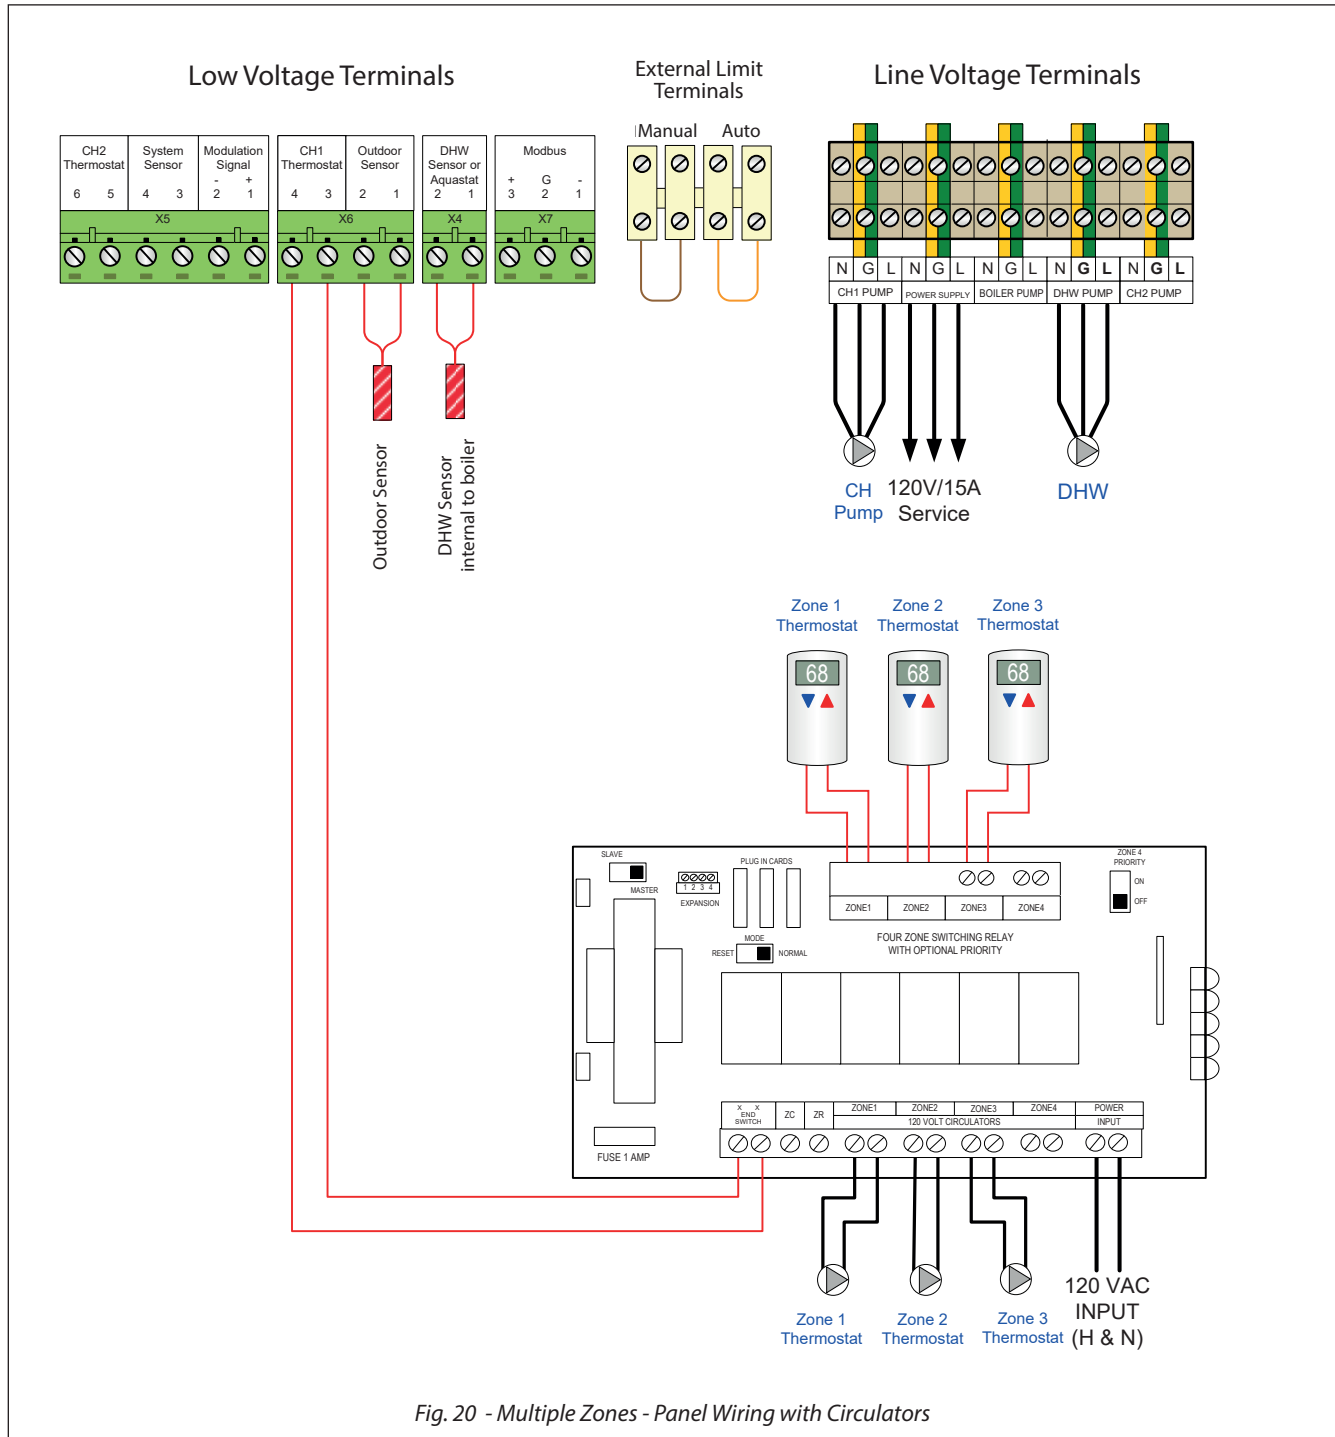
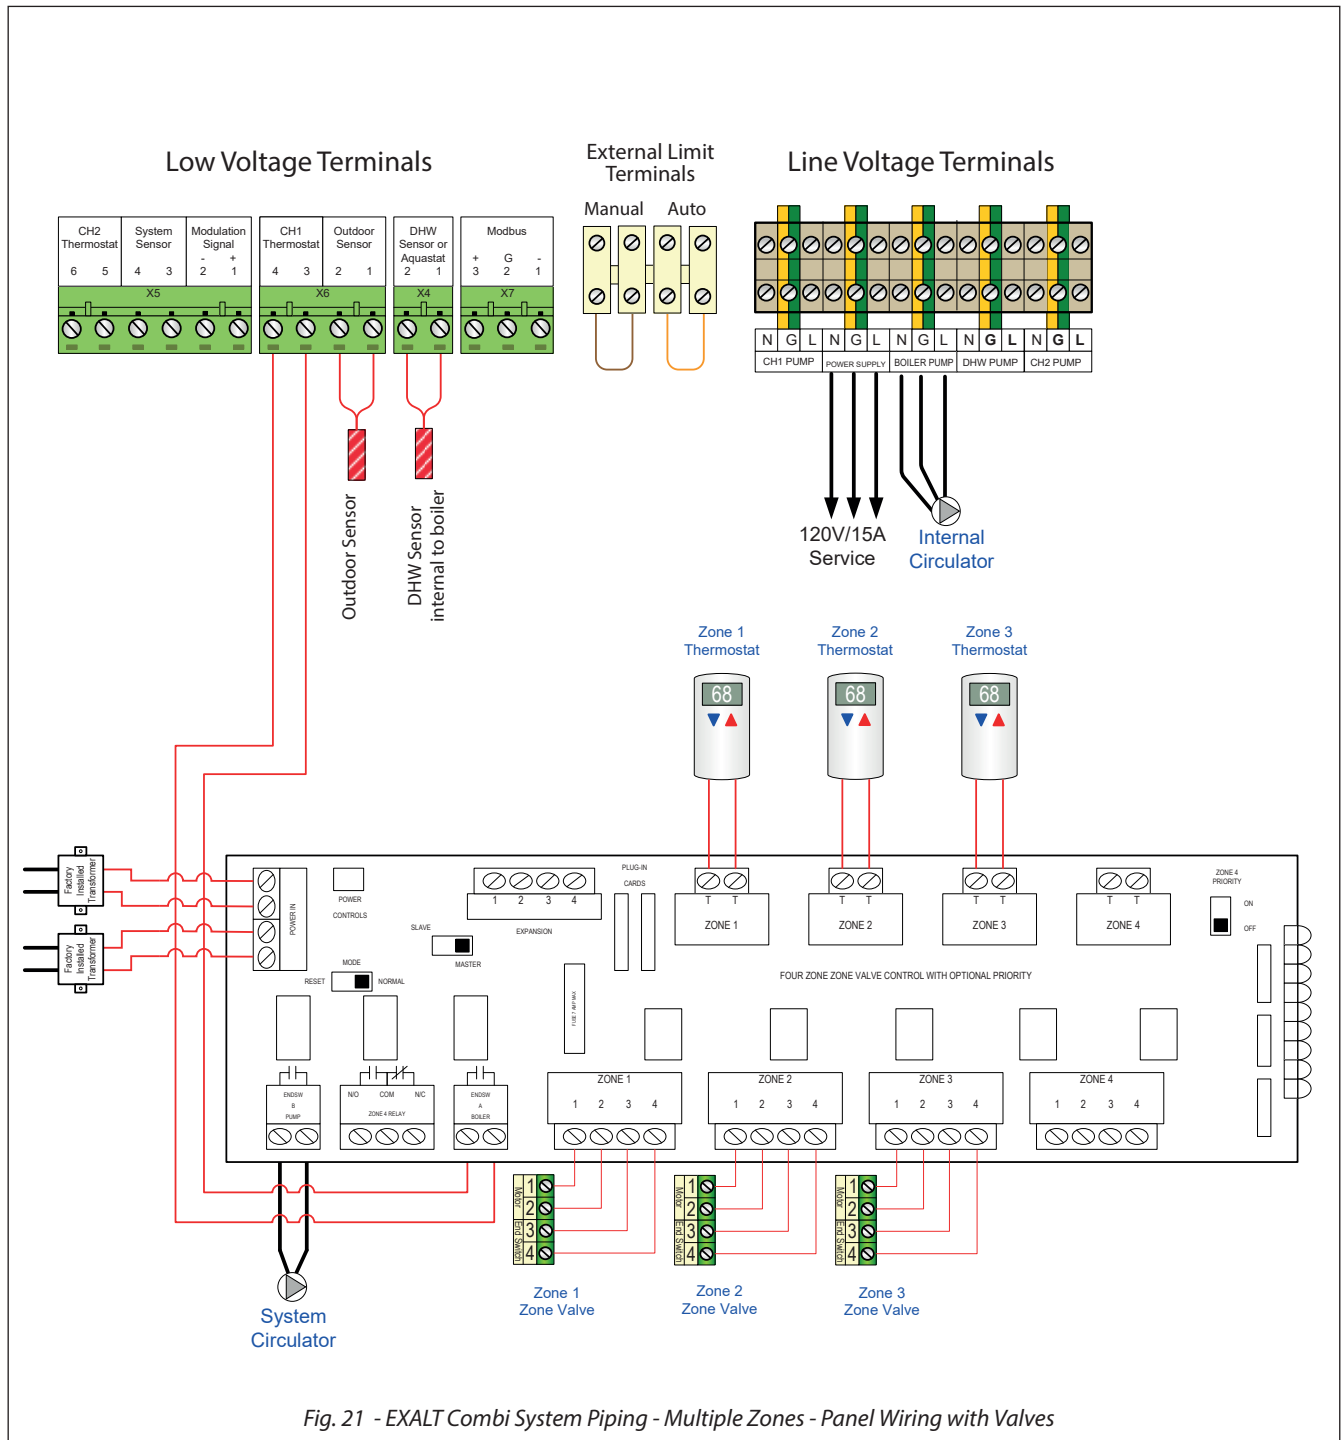

Fig. 20 - Multiple Zones - Panel Wiring with Circulators
Fig. 21 - EXALT Combi System Piping - Multiple Zones - Panel Wiring with Valves
1. The circulator connections used will depend on the systems piping layout. See *Fig. 20 through Fig. 21* for common system piping applications and associated circulator wiring. Consult the EXALT CTRLMax Control Supplement for additional options.